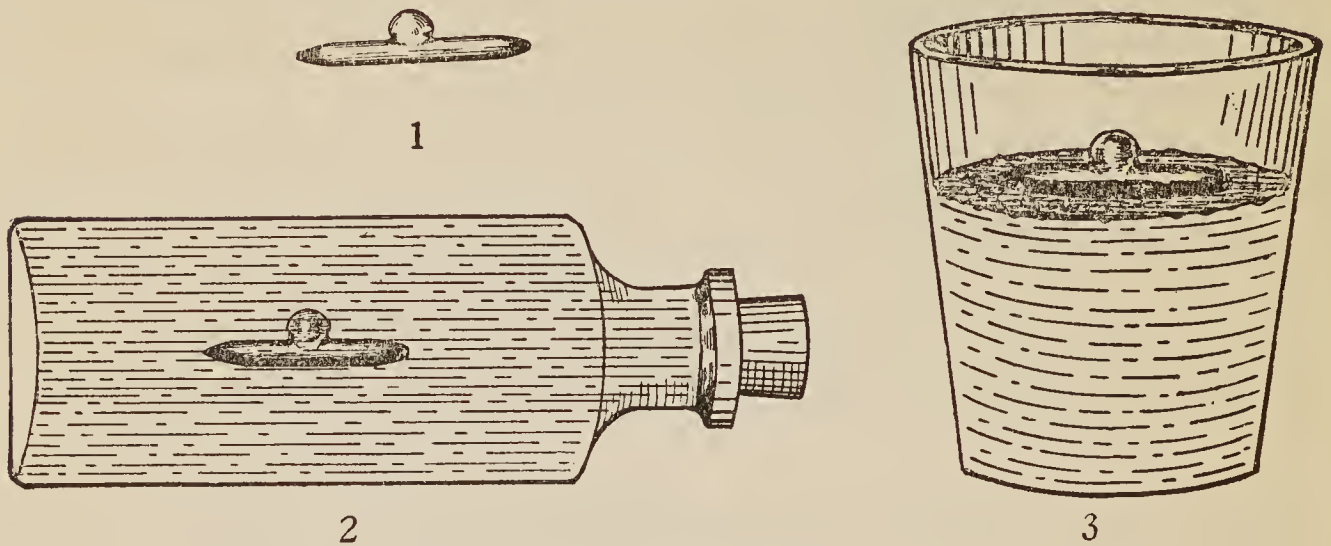

Fig. 112.—The Glass Submarine.
You will observe that the glass submarine (1), Fig. 112, is hollow and that it has a hole at the stern.